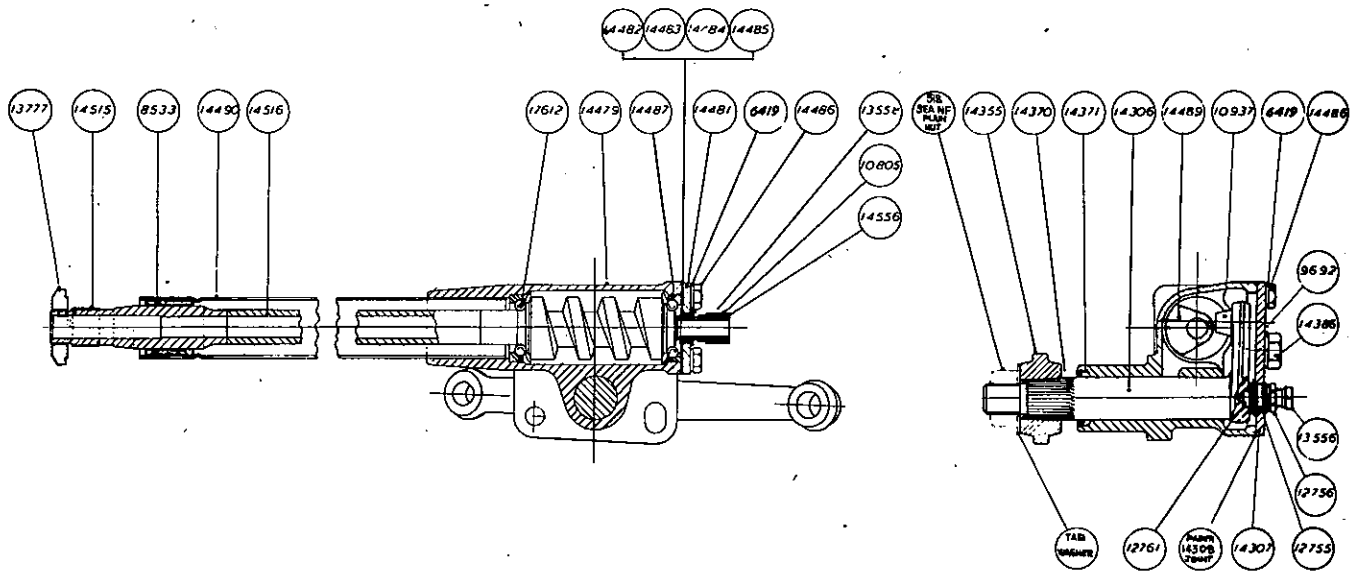

Fig. 5. Sectional view of Bishop's cam and lever. Model "T" steering gear
Type and Description (Fig. 5).
The Steering Gear is the Bishop Cam and Lever Model "T" having a ratio of 11 to 1. The cam portion takes the form of a generated worm and runs in ball bearings. The rocker shaft runs in a plain bearing and a lever integral with the shaft carries a peg which is conical at one end to engage the cam, and as the conical part of the peg does not touch the bottom of the cam groove, adjustment for wear is effected by varying the depth of engagement. This is done by means of the set-screw 13556 (Fig. 5) in the top cover of the steering gear.
The gear is illustrated in Fig. 5, from which it will be observed that it is a self contained unit of extreme simplicity consisting essentially of a cam 14489 mounted on the bottom of steering tube 14516, which engages with the rocker shaft 14306 through a spiral groove cut in the periphery of the cam and a fixed peg mounted in the top of the integral lever of the rocker shaft.
If the steering is stiff in the centre position only, the adjusting screw 13556 (see Fig. 5) is probably tightened up too much. Screw up "finger tight" only, but lock up the lock nut really tight. This adjustment *must* be made with the gear in the centre position only.
ahead position. This is due to play of the taper pin in the cam groove, and is eliminated by re-adjusting the screw (13556 Fig. 5) until a slight binding can be felt when turning the steering wheel to and fro with the gear in the *straight ahead position*.
Lost motion can be easily detected by lightly shaking the drop arm (14355, Fig. 5) in a forward and rearward direction and moving the steering wheel to and fro near the straight ahead position until the least amount of play is found (this fixing the deepest point of engagement between the rocker shaft lever and cam). Keep the gear in this position and then adjust the setting of the screw (13556, Fig. 5). Be careful not to adjust this screw too far in so that the feel in the straight ahead position is too heavy; just a slight touch is all that is required, otherwise the top cover plate 14307 will be damaged and oil lost quite apart from the fact that the steering will be rendered stiff in the straight ahead position
1. Disconnect the rods from the drop arm (14355, Fig. 5). Set the steering partly towards right- or left-hand lock. (Full lock position should not be used). Grip the lever firmly and try to move it forwards and backwards (holding the wheel from turning) and see if the steering wheel shows any lift. If such play exists, this is due to end play of the cam in the ball bearings. The remedy for this lift is to remove one or more shims adopting a similar procedure to that described further on for the addition of shims when dealing with a tight bearing. A very slight pre-loading of balls is permissible.
Remove top cover plate and rocker shaft. If by turning the steering the ball bearing can be felt grinding, the cam bearings (17612, Fig. 5) are too tight.